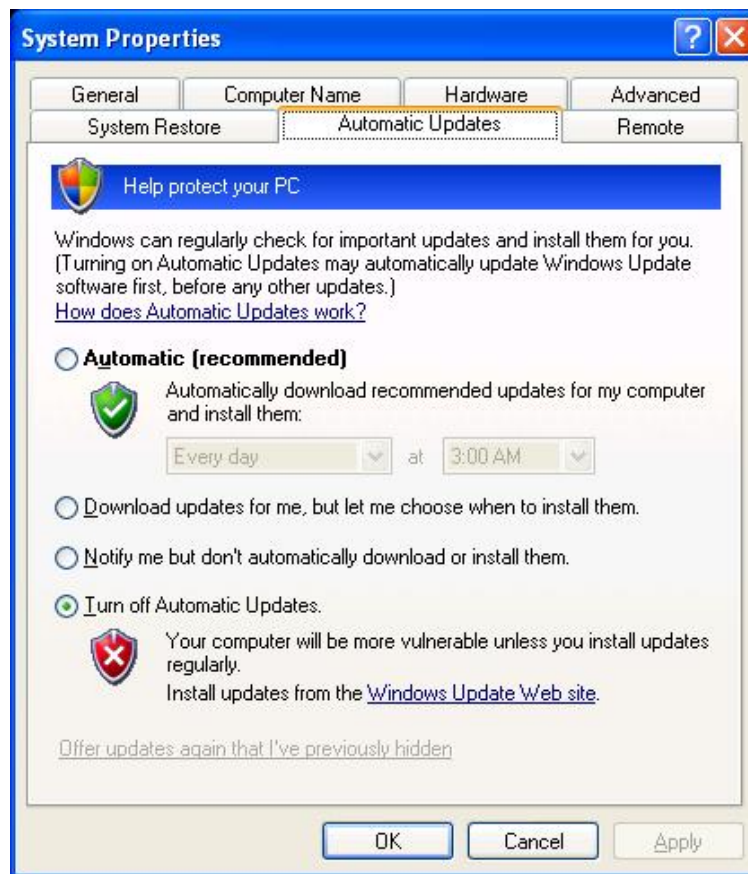

Figure 3-4: System Properties Window – Automatic Updates Tab
2. Under the *Automatic Updates* tab, select the **Turn off Automatic Updates** option, as shown in Figure 3-4.